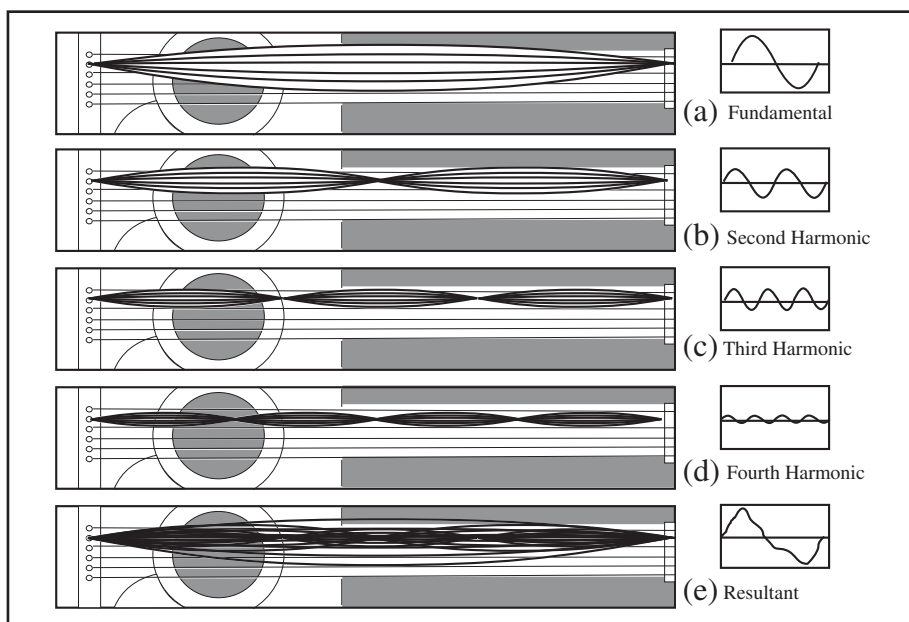

FIGURE 2.3
- **What are overtones and harmonics?** A guitar string resonates at multiples of the fundamental, called overtones, containing musical and non-musical content. Figure 2.3 shows (a) the fundamental, (b) the